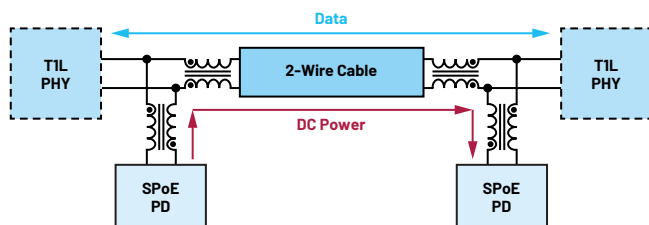

Figure 1. An SPoE system for transmitting up to 52 W of power.
Like PoE, SPoE can be used for both data and power transmission. This is significant because remote electronics usually need power and data connectivity. Figure 1 shows this with the TIL PHY blocks.
An SPoE solution requires a power sourcing equipment (PSE) controller, that is, a circuit that transmits the electrical energy through the 2-wire cable, and a powered device (PD) controller that receives the energy from the 2-wire cable. Figure 1 shows a point-to-point connection. Star and daisy-chain connections are also possible. If existing cables are used, this reduces the cost and effort required to rewire the circuitry.